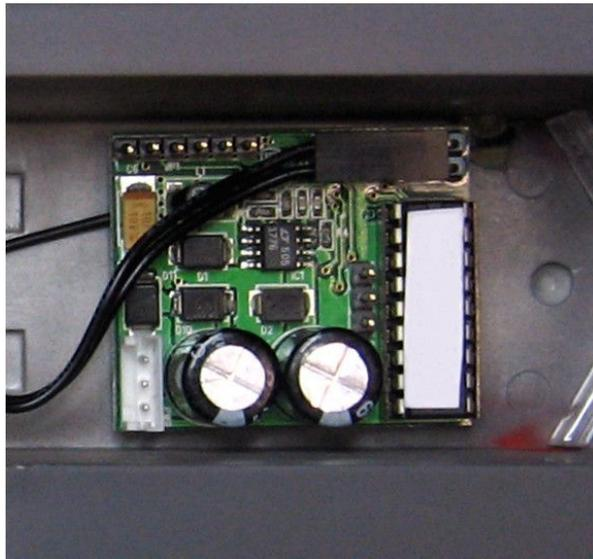

Figure 12 – Speaker connected
4. Refer to Figure 12 and plug the speaker connector into the 2-pin socket in the upper right corner of the sound Commander 2 circuit board. The polarity is not important.